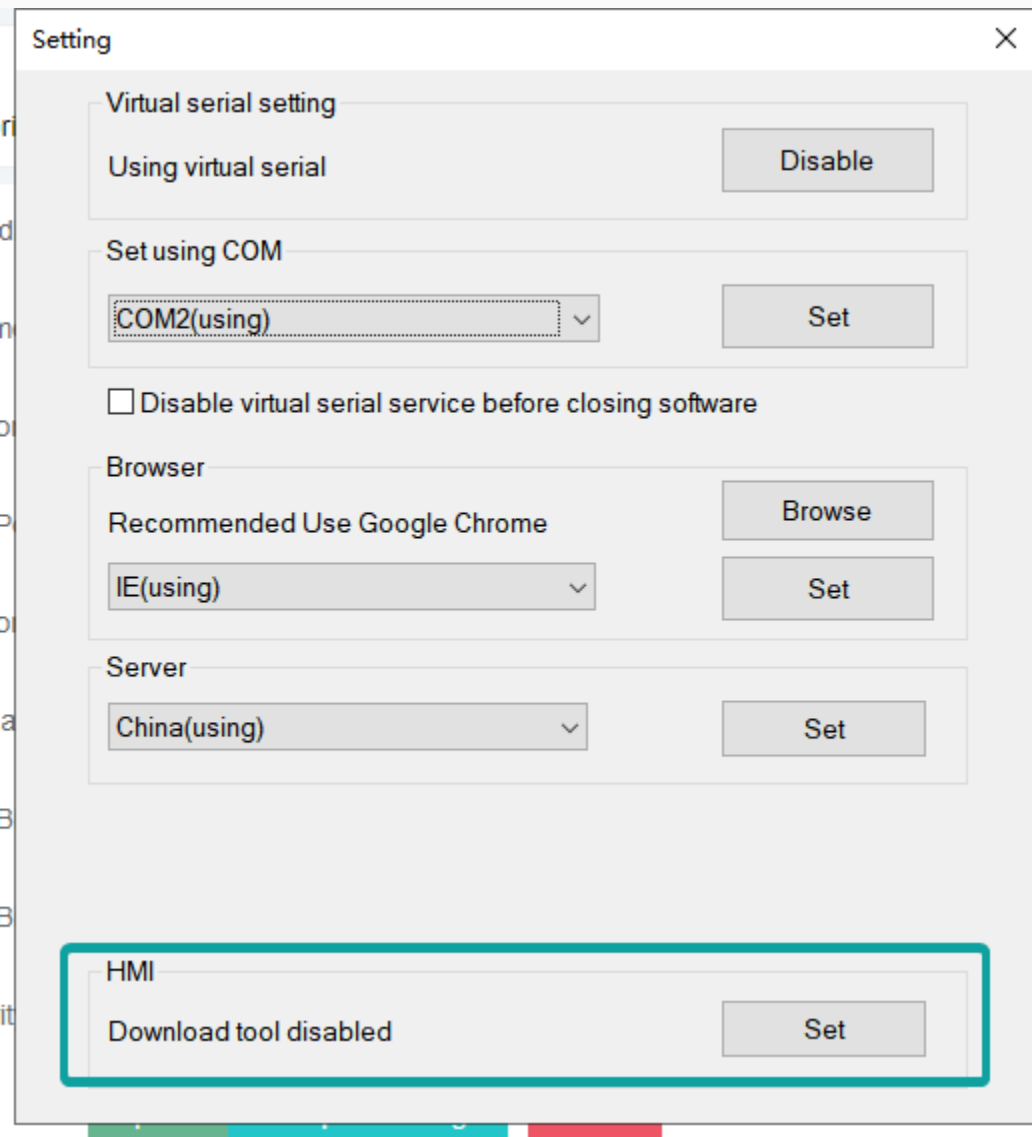

Figure 8
- Click the setting (gear icon) button in the upper right corner of PC Client, and a dialog will pop up. The red area is the configuration of the HMI download tool. As shown in Figure 8: